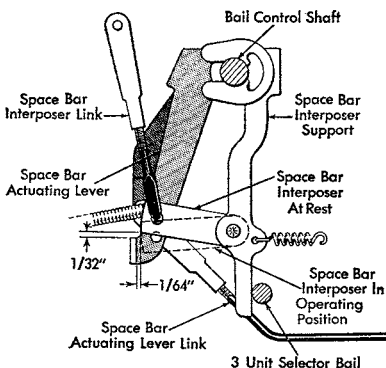

Figure 31. Spacebar Interposer Adjustments
3. THREE-UNIT SPACEBAR INTERPOSER LINK from the keylever is to be adjusted to allow the interposer to clear the top of the formed lug on the spacebar actuating lever by $\frac{1}{32}$ " as the lug passes under the front of the interposer during 2-unit spacebar operation (Figure 31).
4. **THE LINK FROM THE ACTUATING LEVER** to the cam is to be adjusted so that the back of the lug on the actuating lever clears the spacebar interposer by $\frac{1}{64}$ " as the 3-unit spacebar is depressed (Figure 31).